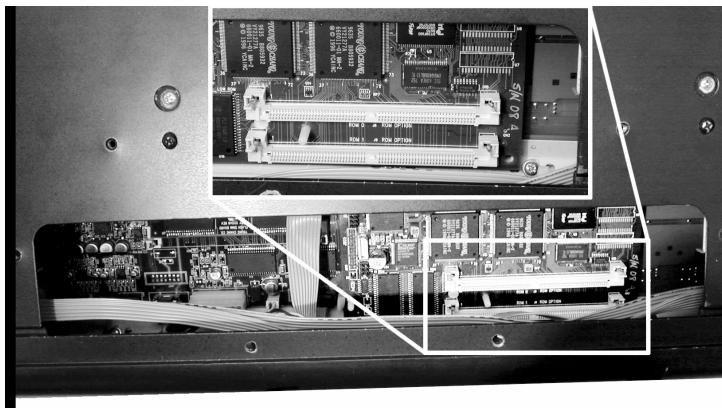

Figure 6 PCX-1 board and SIMM sockets for option boards
1. Locate the PCX-1 board, which is mounted on the Engine board. Identify the SIMM socket for the option you are installing (J8 for the PCR-1 board; J9 for the PCR-2 board). See Figure 6.